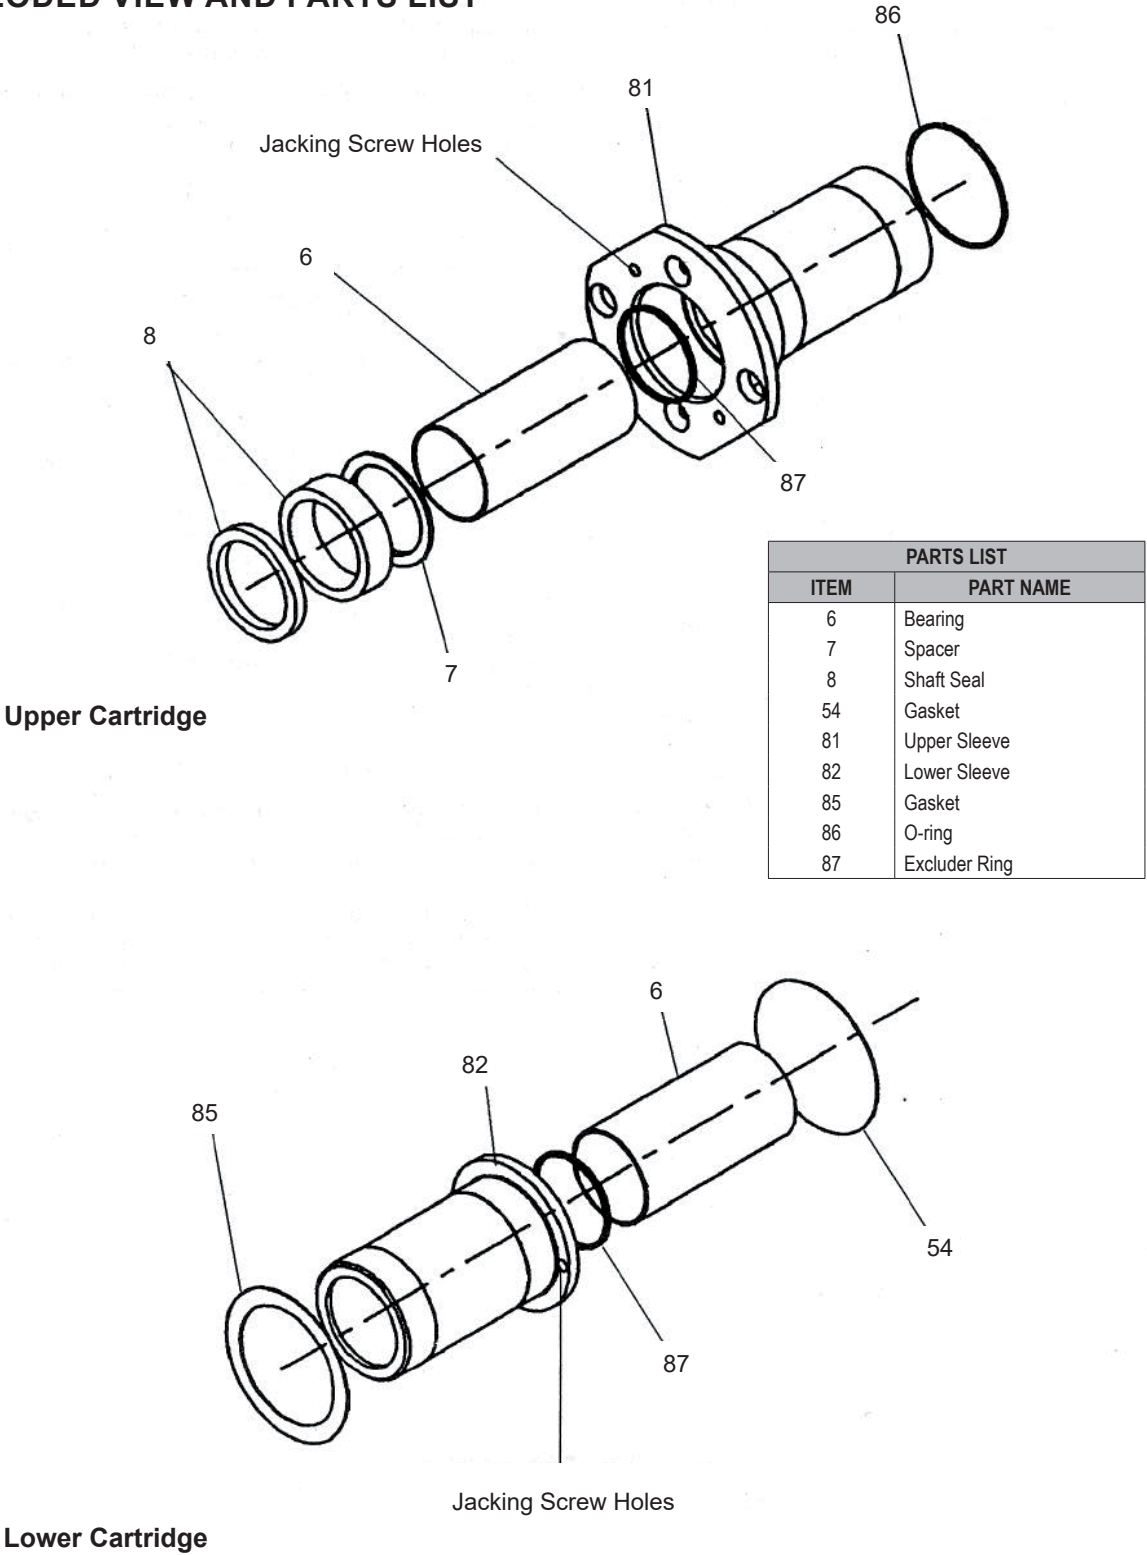

Figure 7.
7. Install remaining bracket bolts (2) and lockwashers (3). If disconnected, reconnect air supply lines and electric wires to solenoid valve. Prior to fully tightening, the all the bracket bolts, cycle the actuator several times to ensure proper alignment between the actuator and valve. Tighten the bracket bolts to the torque in **Table 2**.
8. During system test, check the shaft seal (8, fig. 6). cartridge seals (54, 85, 86, fig. 7) and flange gaskets for leakage. This can be done by applying a liquid mixture of soap and water at all seal joints and watching for bubbles.
Numbers in () refer to items shown in **Figure 7**.